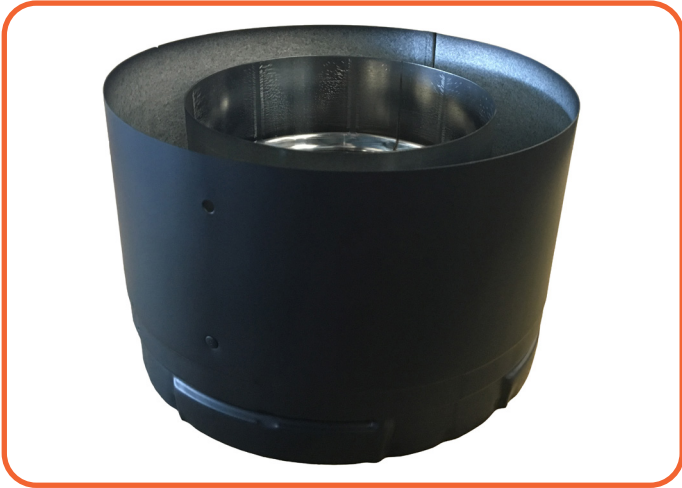

Figure 8.1 - North American vent adapter (5/8")
- This fireplace is shipped with a North American venting adapter (see **Figure 8.1**). It MUST attach to the vent collar of the fireplace.